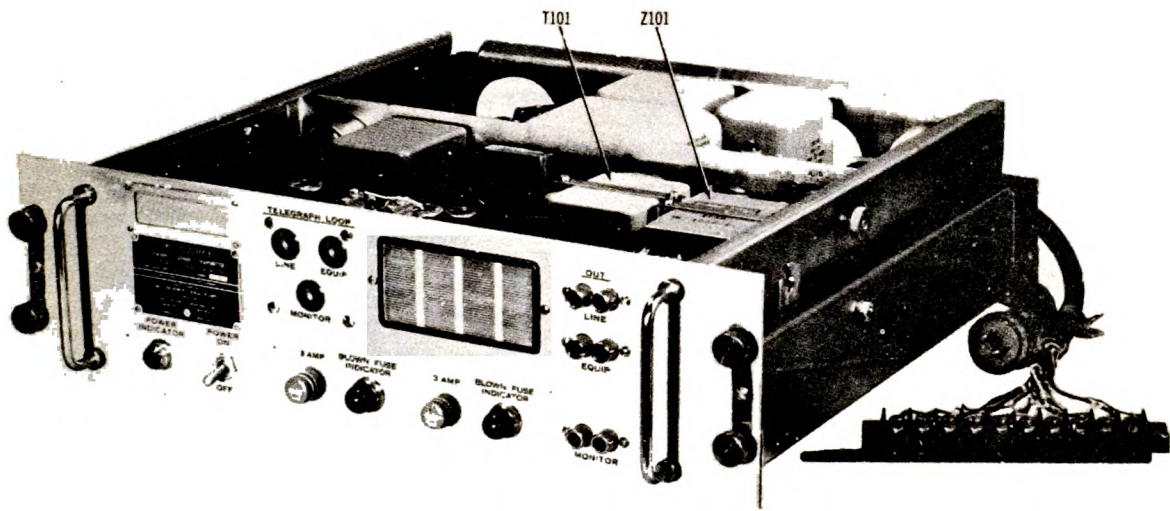

Figure 1-2. Telegraph Carrier Transmitters, Identification of
b. TELEGRAPH CARRIER TRANSMITTER. (See figure 1-2.) - This unit converts the DC telegraph pulses in the loop circuit to frequency shift MARK and SPACE audio signals for one channel. The telegraph carrier transmitter consists of a 15 kc oscillator electrically isolated from the remainder of the transmitter and magnetically coupled to an LC resistance stabilized oscillator, a frequency shifting transformer, an output band-pass filter, and power supplies for the loop and oscillator circuits. The unit operates from a single phase power source of 115/230 volts and 50/60 cycles. For 230 volt operation a transformer tap switch on the chassis must be changed. The circuit parts are mounted in a 19 inch panel and chassis combination 5-1/4 inches high and 16 inches deep. The chassis is provided with a sliding drawer mechanism which allows the chassis to be withdrawn from the cabinet and tilted up to expose the bottom for maintenance. The telegraph carrier transmitter also includes Cable Assembly CX-2124/FCC-3 and Cable Assembly CX-2125/U (4'4"). Table 1-5 correlates the nomenclature of the twelve transmitters with the mid-band center frequencies. All transmitters are electrically and mechanically alike except for the plug-in units and the connections to the bias adjusting capacitors.